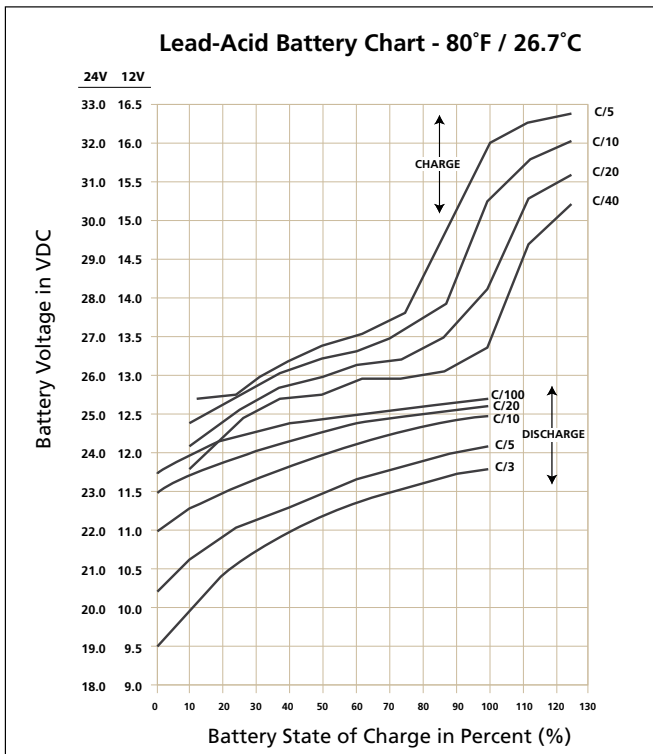

Fig. 7.1: Charging / Discharging Curves for 12V and 24V Lead Acid Battery
Fig. 7.1 shows the charging and discharging characteristics of a typical 12V / 24V Lead Acid battery at electrolyte temperature of 80°F / 26.7°C. The curves show the % State of Charge (X-axis) versus terminal voltage (Y-axis) during charging and discharging at different C-Rates. **Please note that X-axis shows % State of Charge. The % State of Discharge will be 100% - % State of Charge.** These curves will be referred to in the subsequent explanations.
The discharge curves in Fig. 7.1 show the % State of Charge versus the terminal voltage of typical battery under different charge /discharge currents, i.e. “C-Rates” and fixed temperature of 80°F.
**NOTE:** The X-axis of curves shown in Fig 7.1 indicates the % State of Charge. The % State of Charge can be converted to % State of Discharge using formula given below:
As stated earlier, the buzzer alarm is triggered when the voltage at the DC input terminals of the inverter has dropped to around 10.5V for a 12V battery (21V for 24V battery) at C-Rate discharge current of C/5 Amps. Please note that the terminal voltage relative to a particular of State Discharge decreases with the rise in the value of the discharge current. For example, terminal voltages for a State of Discharge of 80% (State of Charge of 20%) for various discharge currents will be as given at Table 7.5 (Refer to Fig 7.1 for parameters and values shown in Table 7.5):
Inverters are normally provided with a protection to shut down the output of the inverter if the DC voltage at the input terminals of the inverter drops below a threshold of around 10V for a 12V battery (20V for 24V battery). Referring to the Discharge Curves given in Fig 7.1, the State of Discharge for various C-Rate discharge currents for battery voltage of